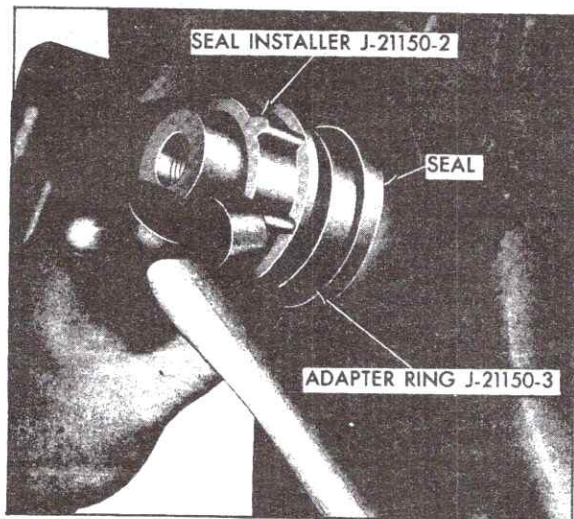

Fig. 6-124 Engine Front Cover Oil Seal Installation
Adapter, J-21150-3 and hammer, drive seal into bore of front cover until seal bottoms against shoulder of bore, Fig. 6-124.
2. Using Seal Installer, J-21150-2, Adapter Ring, J-21150-3, and hammer, drive seal into front cover until it bottoms against shoulder in bore, Fig. 6-124.